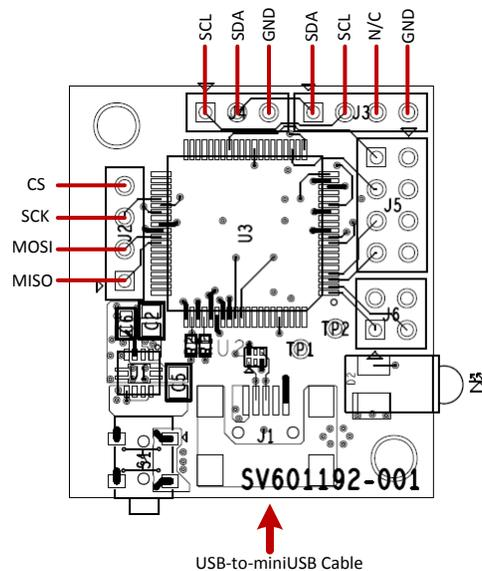

Figure 4. DPS-DONGLE-EVM Connection Diagram.
3. Connect the DPS-DONGLE-EVM to the slave device. The headers are labeled in the connection diagram shown in Figure 4. Silkscreen labels are located on the back of the board.